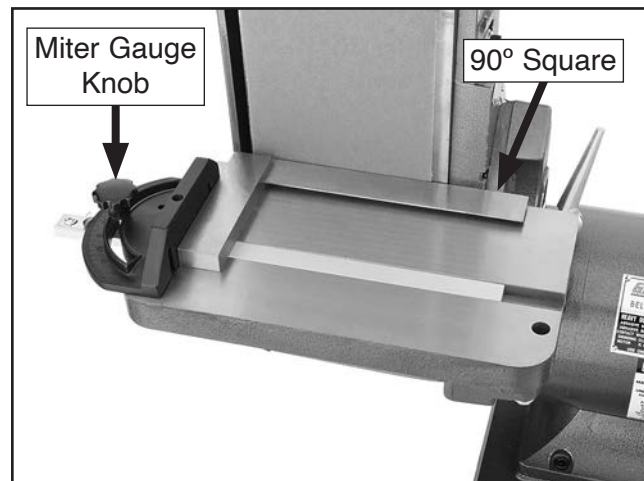

Figure 20. Example of squaring sanding belt table to sanding belt.
11. Slide miter gauge into sanding belt table T-slot, and loosen miter gauge knob (see **Figure 20**).
12. Place 90° square against miter gauge and sanding belt (see **Figure 20**).